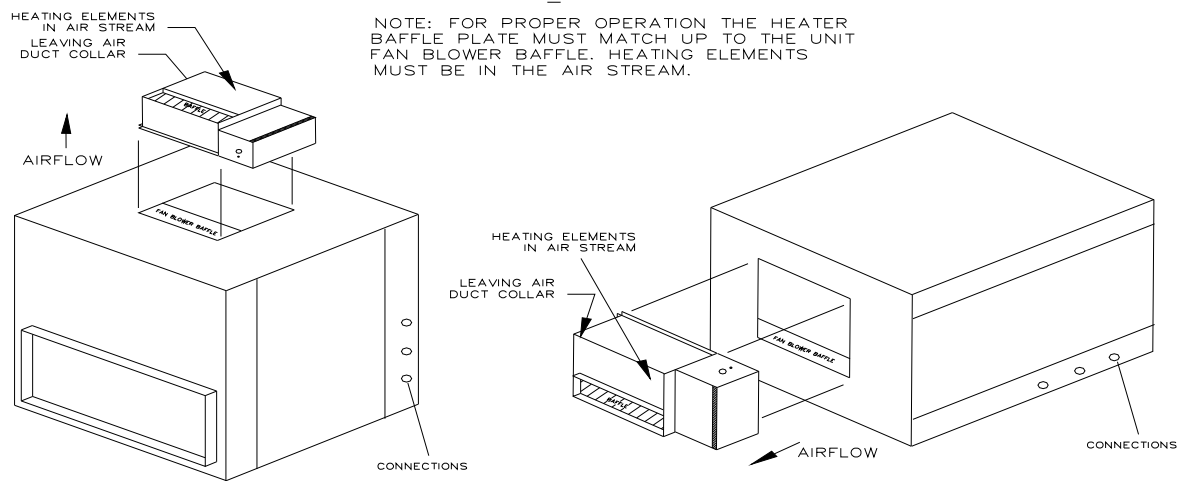

Fig. 1 – Heater mounted on single blower unit.
3. These heaters are to be mounted on the supply duct(s) of the air handler (See fig. 1) and should be oriented taking in consideration that the heater baffled section must be aligned with the blank-off section of the fan blower baffle.